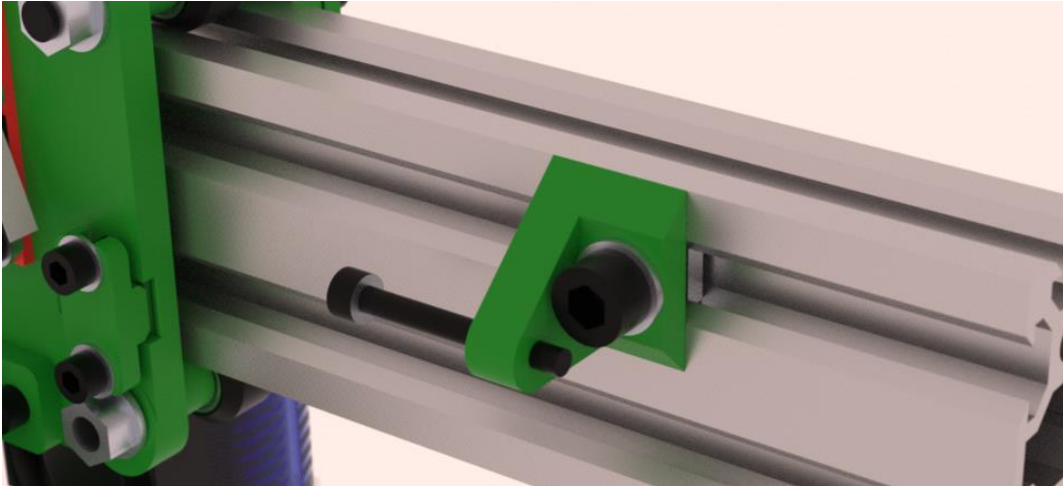

Figure 44: X Endstop Flange placement
- Attach the X Endstop Flange on the backside of Rail R as shown in Figure 44.